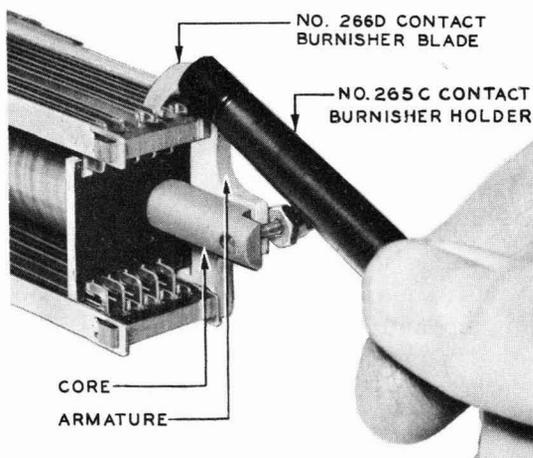
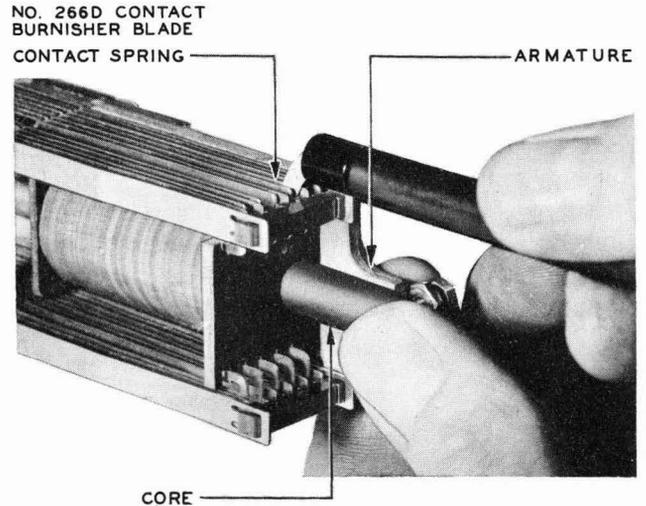

Fig. 14 – Method of Inserting Contact Burnisher Blade on UB-type Relays
Fig. 15 – Method of Burnishing Contacts on UB-type Relays
4.11 *UB-type Relays:* Insert the No. 266D blade in the No. 265C contact burnisher holder so that the outer tip of the blade extends approximately at right angles to the holder as shown in Fig. 14. In burnishing normally open contacts, insert the burnisher blade between the contacts so that the blade is over both contacts on the bifurcated spring. Operate the relay manually, giving a slight pressure against the blade, and at the same time move the blade up and down as shown in Fig. 15. In the case of normally closed contacts, operate the relay manually, insert the blade between the contacts and then release the relay. The tension of the springs themselves will usually furnish sufficient pressure against the burnisher blade.